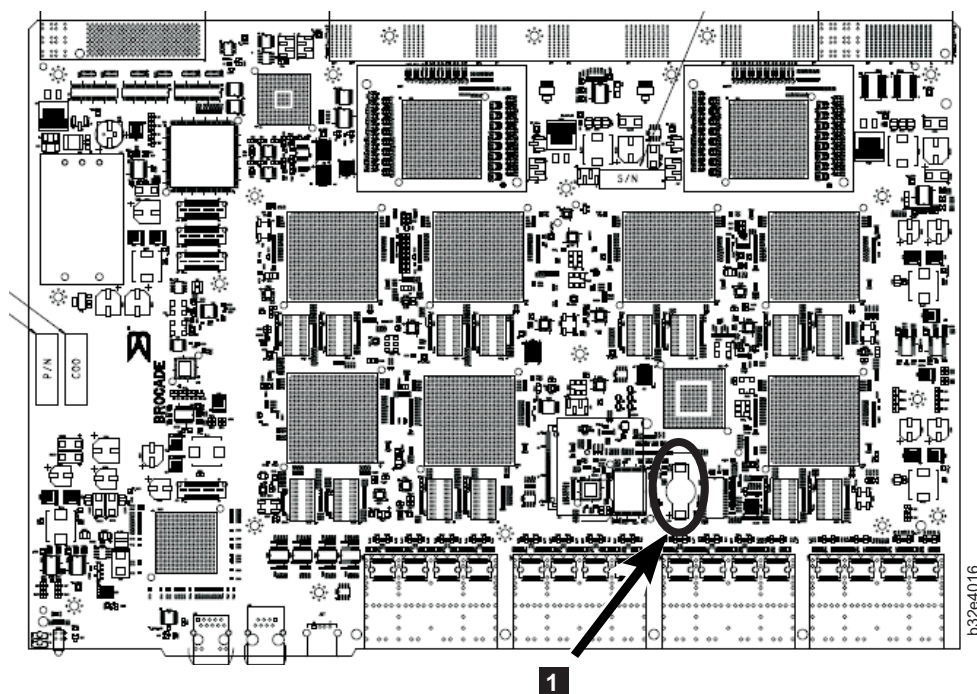

Figure 21. Location of battery holder
5. On the circuit board, go to the BC1 location (**1** in Figure 21) and remove the BR1225 battery from the holder.